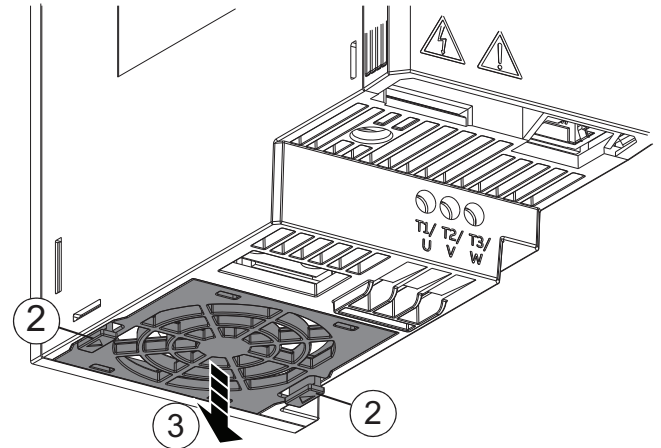

Fig. 54 — Lifting the Fan Cover Out of Drive
2. Press the two clips by fingers to open the fan cover. See Fig. 54.